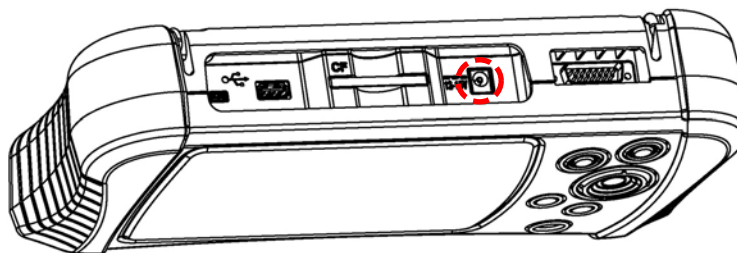

Figure 3-7 DC power supply input
1. Plug the 2.5 mm end of the AC/DC power supply cord into the DC port on the tool (Figure 3-7).